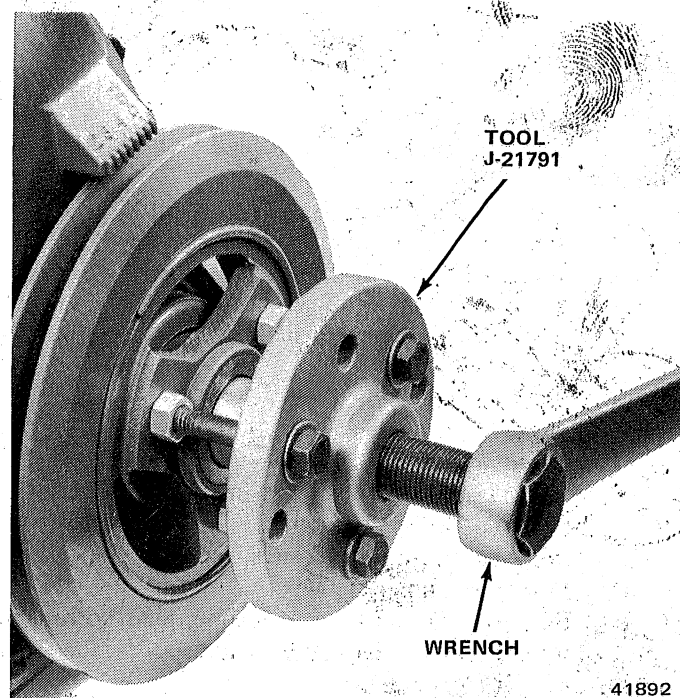

Fig. 1B-97 Vibration Damper Removal
- (1) Remove drive belt(s).
- (2) Remove three retaining bolts and separate vibration damper pulley from vibration damper.
- (3) Remove vibration damper retaining screw and washer.
- (4) Use Vibration Damper Remover Tool J-21791 to remove damper from crankshaft (fig. 1B-97).